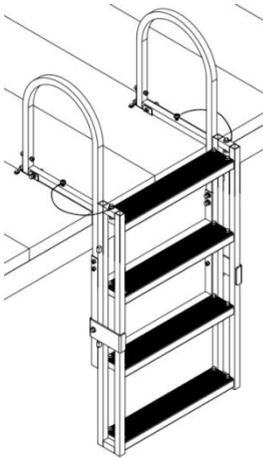

Fig 1
- 1) Place the ladder into the pool without magic tape band(Fig1.),then let the bottom of the ladder touch the bottom of the pool,hook the ladder to the clasp rack,